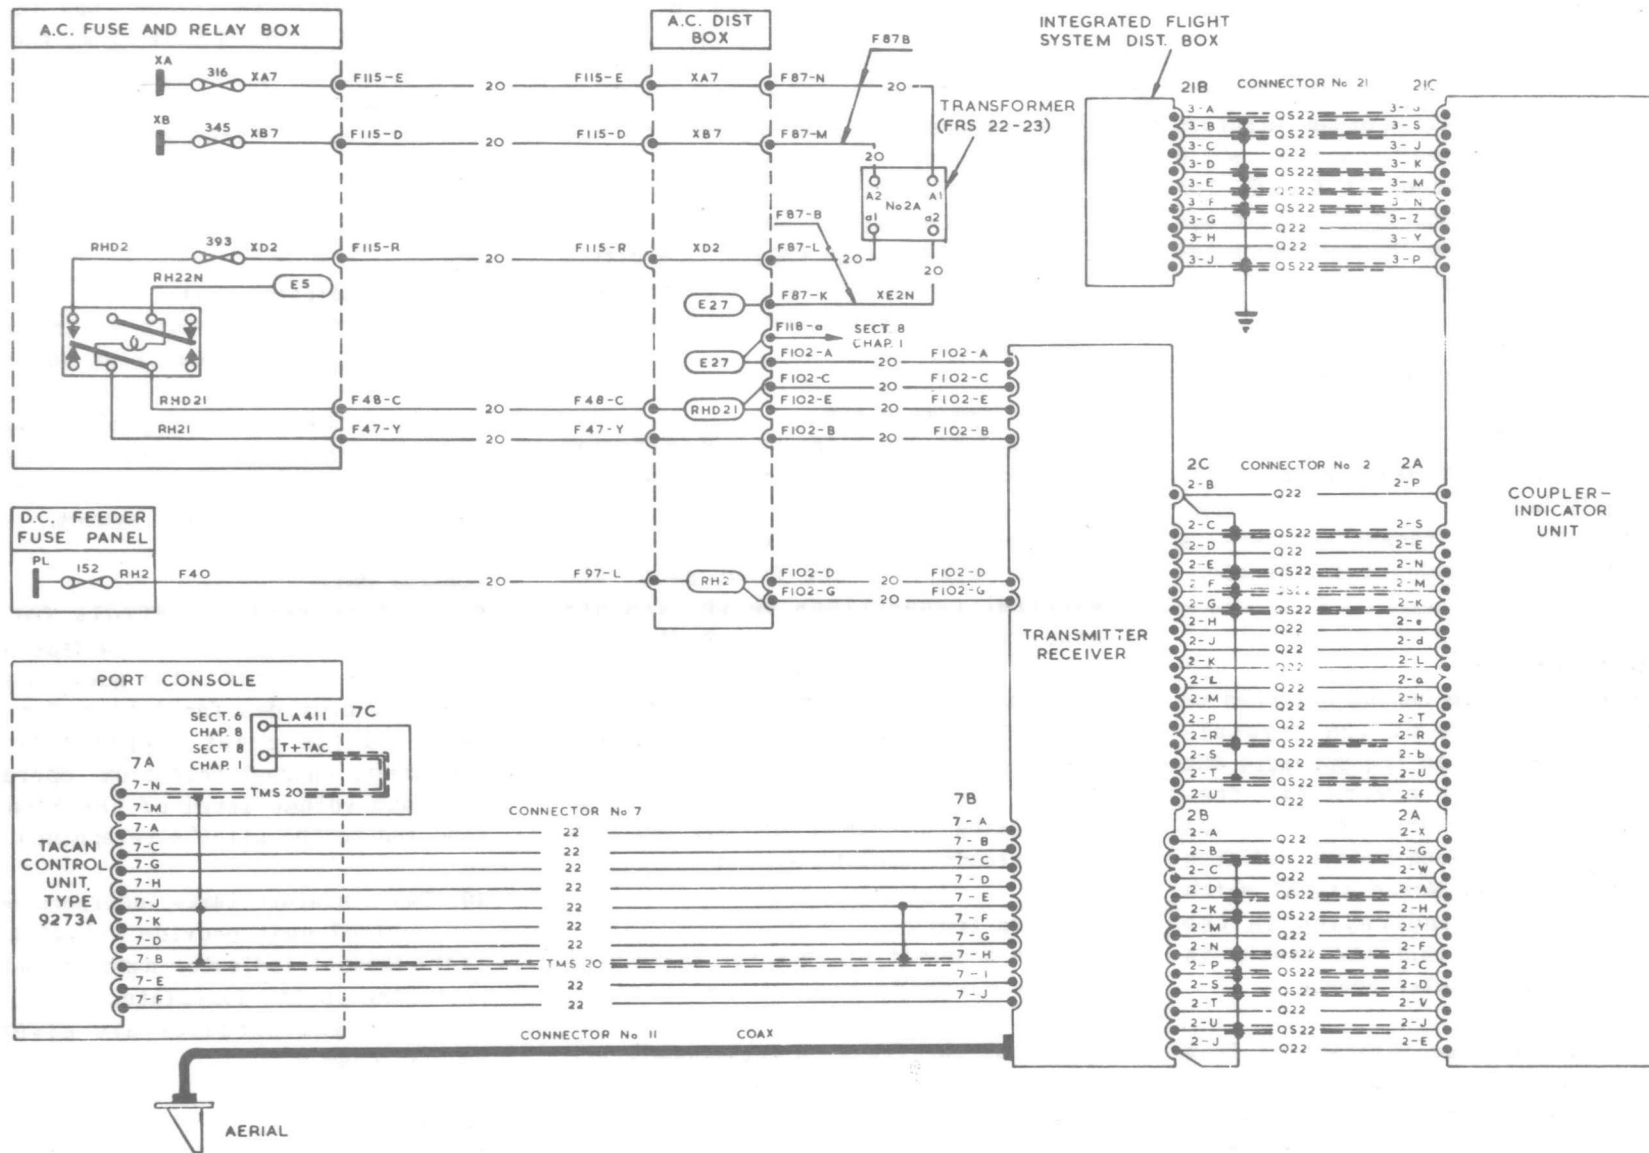

FIG. 2. TACAN SYSTEM
13. The Tacan system requires power supplies of 28-volt d.c. and 115-volt, single-phase a.c., the main supplies being shown in fig. 2. Further information is included in Sect. 6, Chap. 11. The power supply for the offset computer is taken from the navigation display unit amplifier in the integrated flight instrument system.
continuity tests on the Tacan supply circuits, reference should be made to fig. 2. Further information on the power supplies will be found in Sect. 6, Chap. 11.